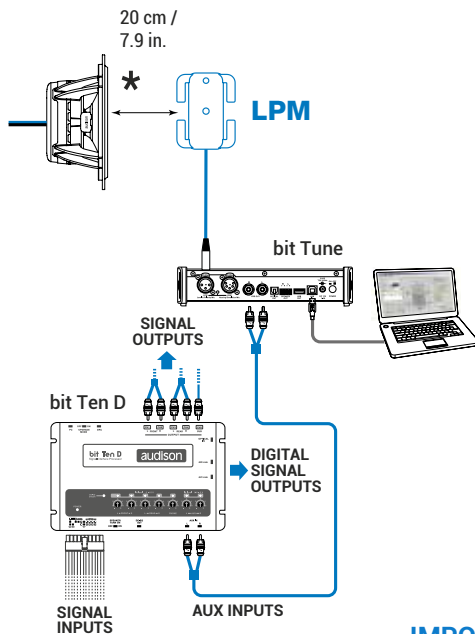
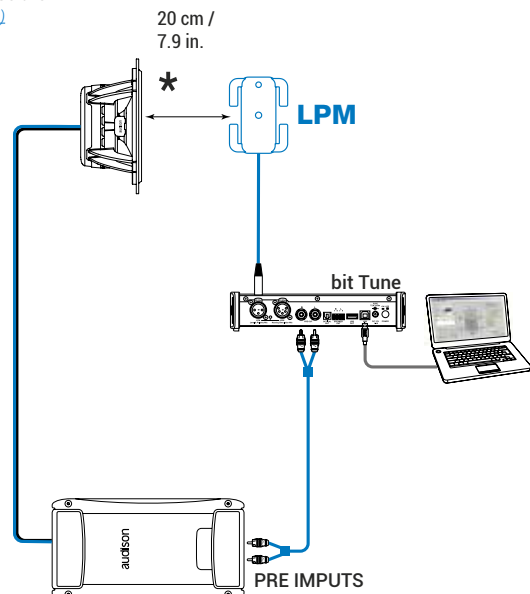

Fig 1
Fig 4
The measurement checks the correct polarity connection of the speakers or amplifiers. The operation can be performed with an Audison bit processor connected to the audio system (fig. 1, 2 and 3) or simply by connecting the output of the bit Tune to the input of the amplifiers (fig. 4).
1. Connect the bit Tune to the Audison bit processor, as shown in fig. 1 or 2 (see points A and B).